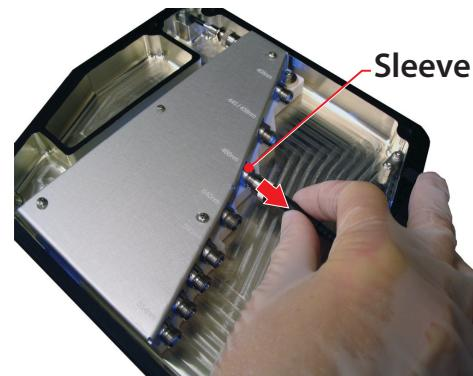

Figure 5-21. Slide Fiber Out of the Sleeve
4. Loosen the FC connector and *carefully* slide the fiber out of the sleeve, as shown in Figure 5-21.